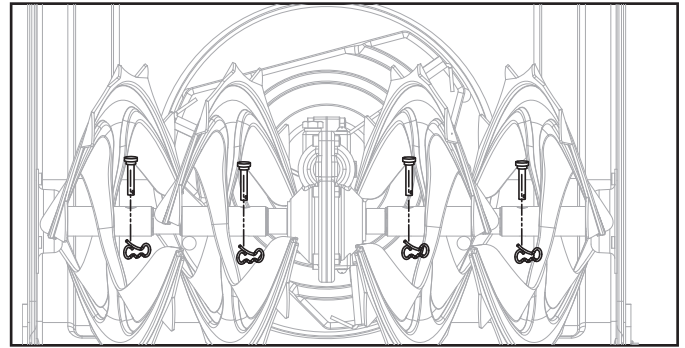
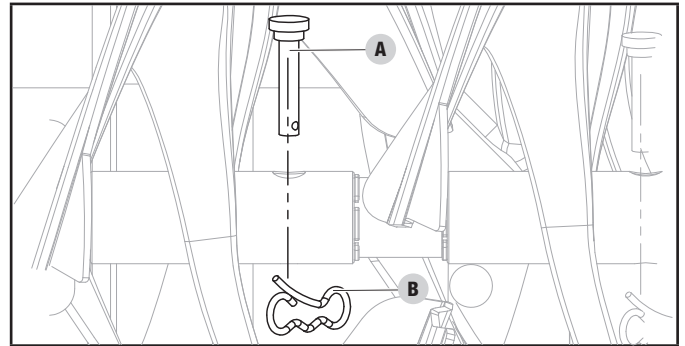

Figure 21A
Figure 21B
The auger housing is shown as Fig. 21A. The augers are secured to the auger drive with shear pins (A) and clips (B). If the auger should strike a foreign object or ice jam, the snowblower is designed so that the lock pins may shear. If the augers will not turn, check to see if the lock pins have sheared (Fig. 21B). Replace shear pin(s) and clip(s) as necessary.